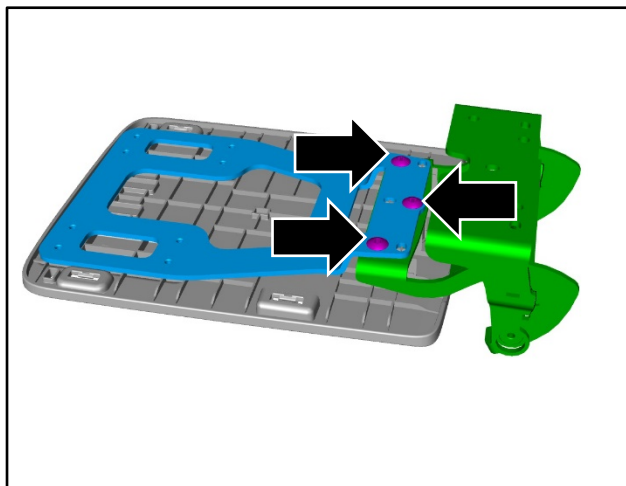

Figure 21
14. Remove the three screws and remove the bracket and hinge assembly (refer to Figure 21).